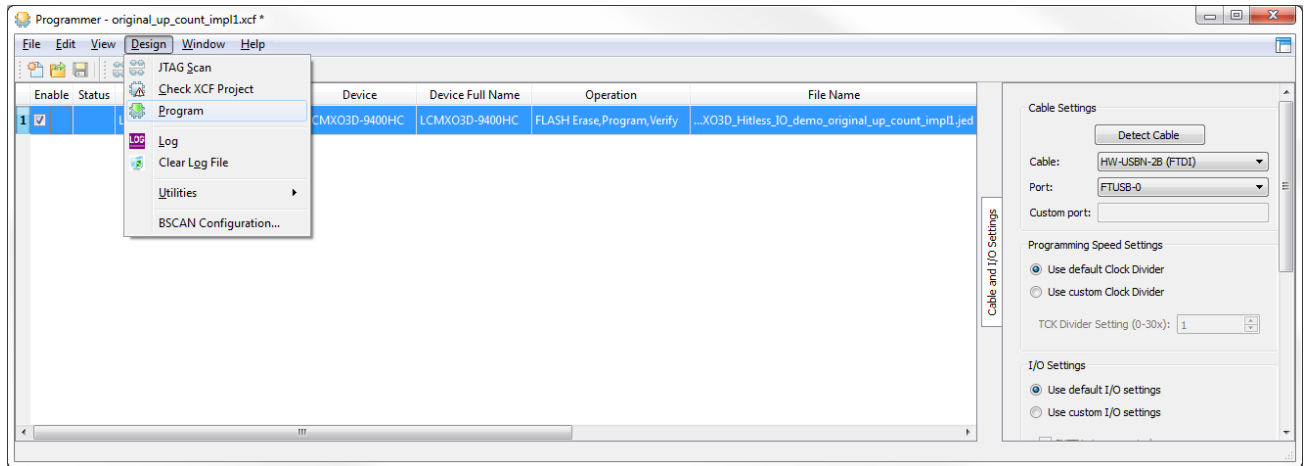

Figure 6.5. Programming the Device
- Now you can program the device. Select **Design > Program** (Figure 6.5), or click the **Program** button () from the toolbar.